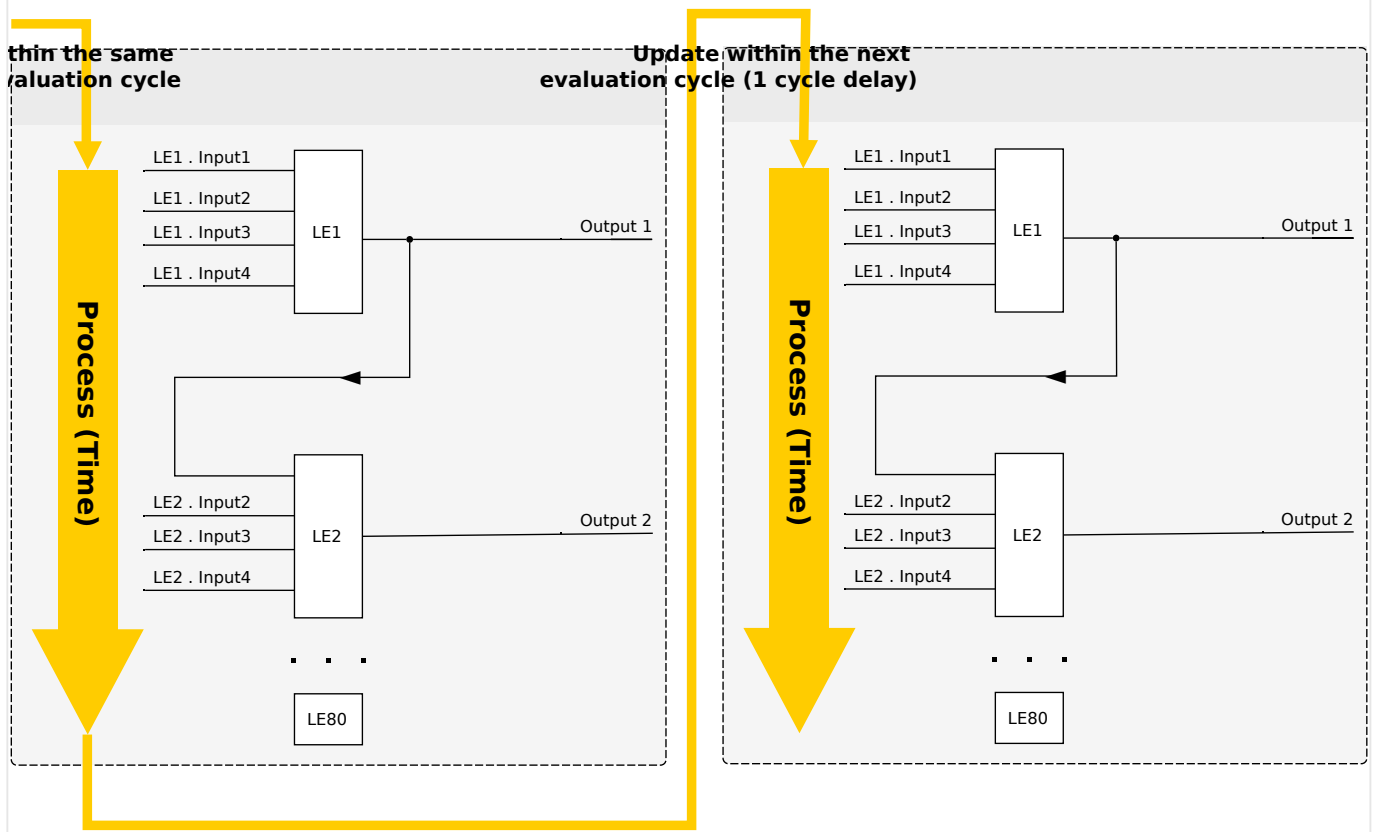
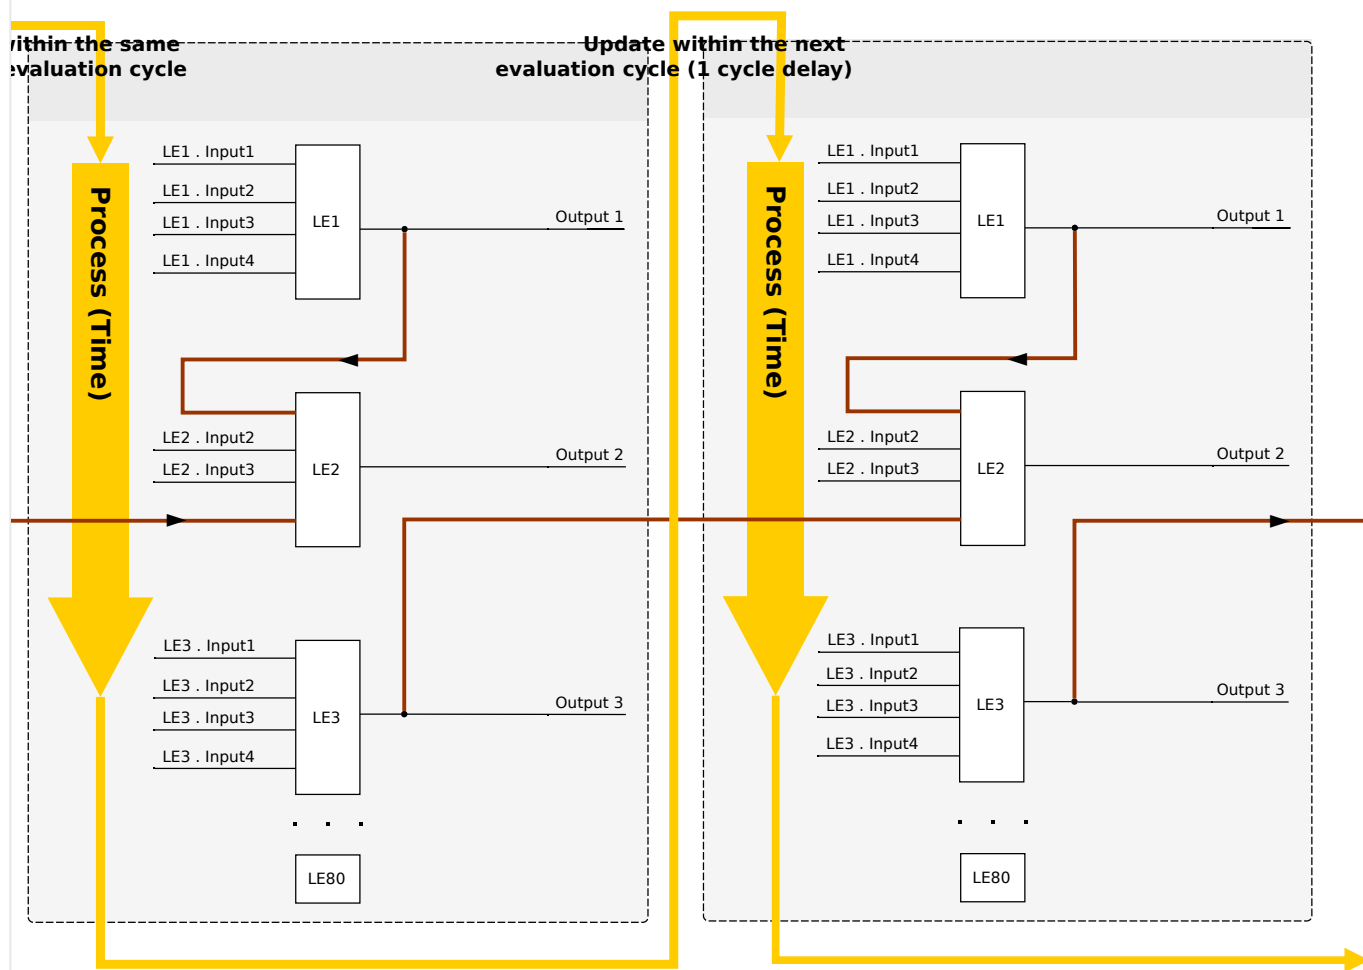

Fig. 206: Cascading in Ascending Order.
Fig. 207: Cascading in Descending Order.
- **Ascending** sequence means that some output is fed into the input of a logic equation with **higher** number. For instance, diagram ↪Fig. 206 below shows an example where the result of Logic Equation LE1 is used as an input of Logic Equation LE2.
- **Descending** sequence means that some output is fed into the input of a logic equation with **lower** number. For instance, diagram ↪Fig. 207 shows an example where the result of Logic Equation LE3 is used as an input of Logic Equation LE2.
Both ascending and descending sequences may be used and combined one with the other, with no immediate difference. However, due to the evaluation of all equations in ascending order the actual run-time values that are fed in at the input of an equation will have a different “age”, as is shown in ↪Fig. 206 and ↪Fig. 207 below.
In the example shown in Fig. 207 above, “Logic Equation 2” uses the output states of two other equations, “Logic Equation 1” and “Logic Equation 3”. The result of “Logic Equation 1” is used in ascending order and has therefore been evaluated within the same process cycle. The result of “Logic Equation 3” is used in descending order and has therefore been evaluated in the previous process cycle.